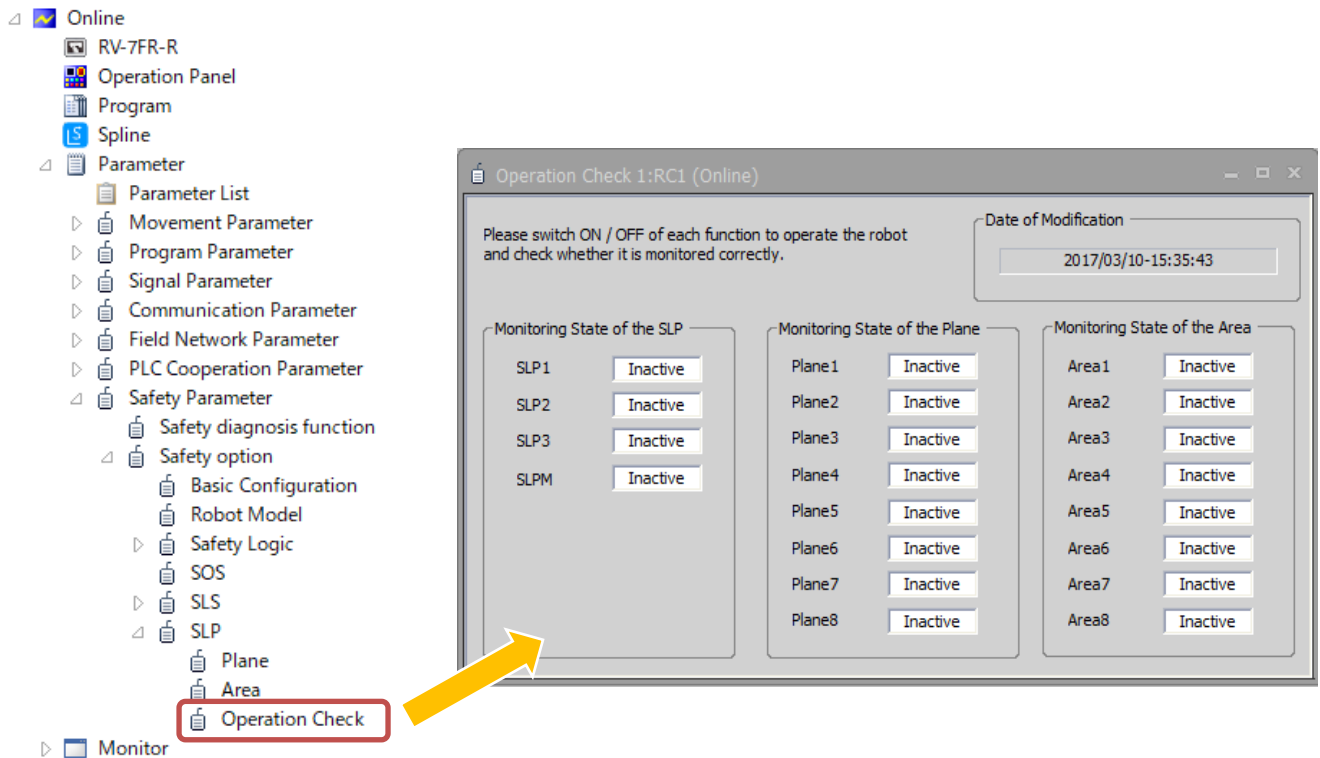

Fig. 4-66: Operation check
- In the SLP prior stop state, errors are shown for "Monitoring State of the Plane" and "Monitoring State of the Area" in the [Operation Check] window of RT ToolBox3. (Refer to Fig. 4-66.)